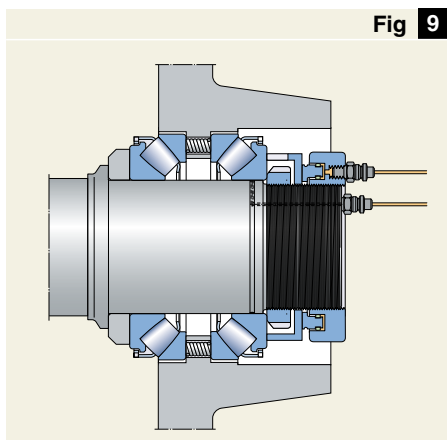

Fig 9
2) If  $F_r > 0,64 F_a$ , the rules for unloaded housing washer face up apply, if the shaft is vertical. However, the listed values are to be multiplied by two since, under radial loading, the clearance is shared equally by the bearings. With an arrangement design described in the section "A spherical roller thrust bearing combined with a thrust ball bearing" (→ fig 9 on page 23), the listed values are valid
In case of preload, the oil injection method in combination with an HMV.. E type SKF hydraulic nut can be used (→ **fig 9**). When the washer has been heat mounted close to its correct position the preload force is applied to the shaft washer by means of a specific oil pressure in the hydraulic nut, while oil is injected between the washer and shaft. This pushes the washer into the correct position. The preload from the hydraulic nut must be maintained until the oil injection pressure has been released and the washer has obtained a full interference fit with the shaft.